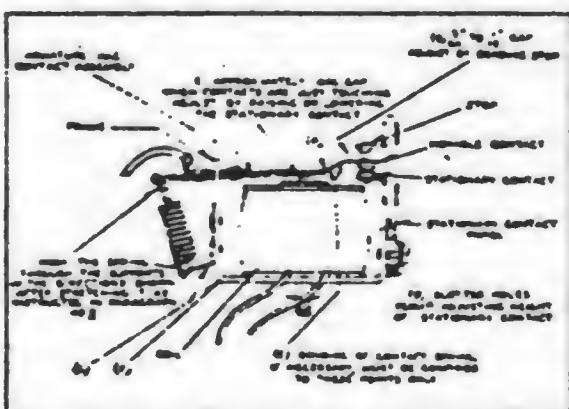

FIG. 37 BATTERY CHARGING RELAY
**b. Battery Charging Relay.**—The battery charging relay requires little attention. Do not disturb the factory adjustment unnecessarily. If the adjustment has been disturbed, or a new part has been installed, a definite procedure must be followed in making correct adjustments. Refer to (Fig. 37) in connection with these instructions.
(1) With the coil assembly installed in the frame and the nut securely tightened, place the armature and contact assembly in position. The contact spring rests against the armature at the point (A) with a pressure of about one pound. If this tension has been lost, install a new armature and contact assembly.
(2) Install the stationary contact panel with contact. The screw holes are elongated to permit adjusting.
(3) Adjust the gap (C) to approximately .040" by raising or lowering the stationary contact as permitted by slotted holes (D). Measure this gap with a thickness gauge when contacts are just touching.
(4) See that contacts set squarely together when the armature is entirely down and that they make contact at the centers of the contact surfaces. If necessary, bend the frame slightly at point (F) and the contact arm at points (E) to obtain correct alignment. After bending at either point it will be necessary to readjust gap (C).
(5) Adjust gap (B) to between 3/64" and 1/16" by bending the stop as required.
(6) If a new spring is to be installed, it must be stretched very carefully before assembling. The coils of a new spring rest tightly together with some tension. Stretch just enough so a very small clearance remains between coils when released, just enough clearance so coils do not touch. If clearance is too great, discard the spring.
(7) Install the spring with the hooks attached in exactly the directions shown in (Fig. 37).
(8) Adjust the spring tension so that 10 volts direct-current applied to the coil will close the contacts forcibly but 8 volts will not be sufficient to close them. Use 5 cells of the battery to obtain 10 volts, 4 cells to obtain 8 volts. To increase the spring tension, bend the lower loop up closer to the first coil. If more tension is needed than obtainable in this manner, bend the support downward at (G). To reduce the tension, bend the support upward.